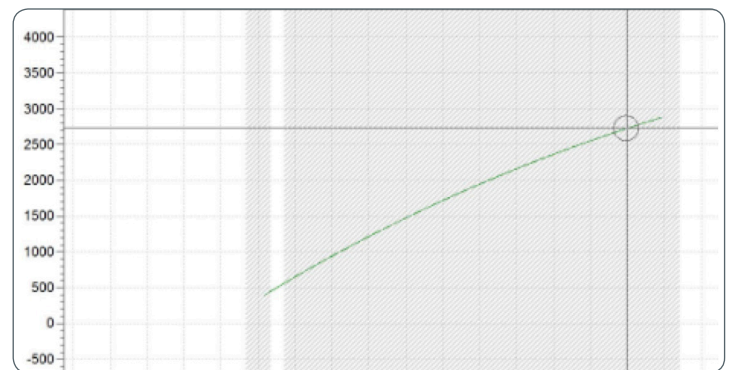

Figure 8: Grey out the less steep part leaving the steepest part white for analysis:
- 4 When the raw data is shown, bring in the edges so only the steepest part gets analysed (see Figure 8).